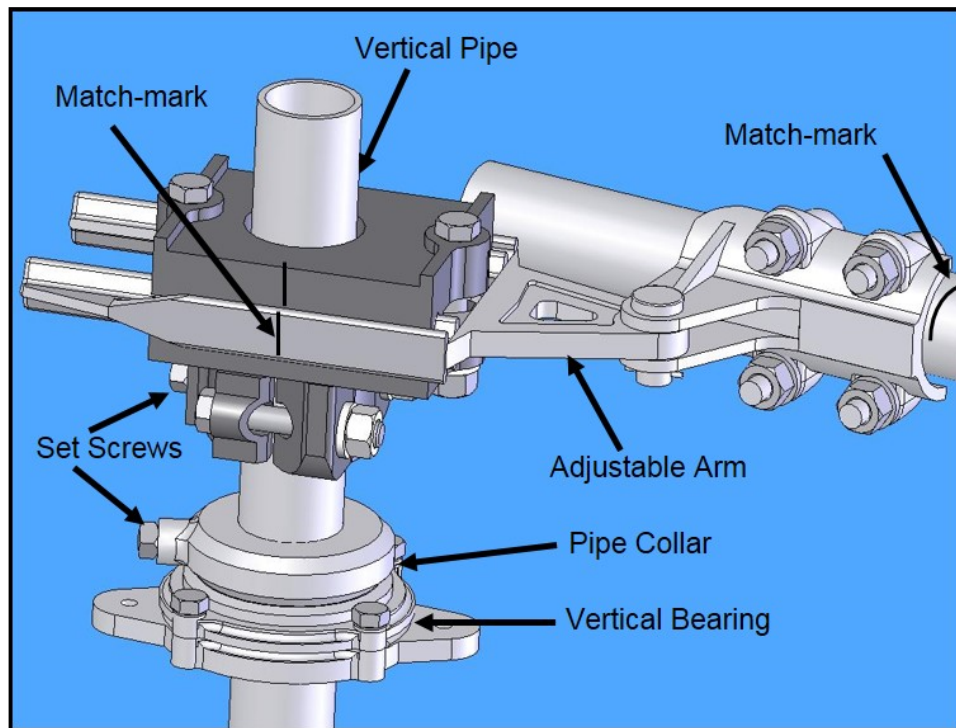
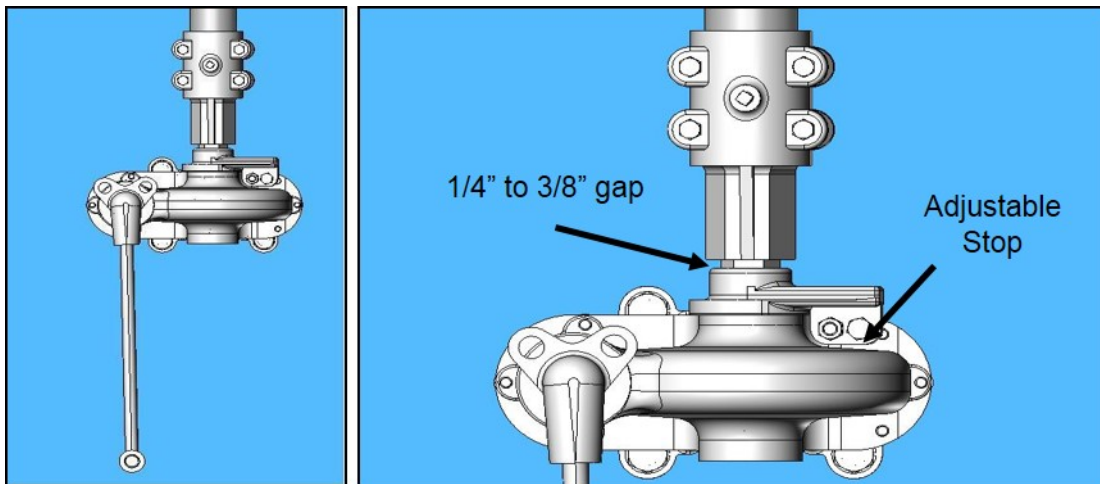

Figure 18: Typical Operating Arrangement
Figure 19: Type HOGO (High Output Geared Operator) Front View
3. Refer to the Operating Mechanism drawing, and install all mounting brackets, bearings, bushings, pipe clevises, switch operating device, adjustable arm, reach rod, and other necessary components. Refer to **Figure 18**.
5. After mounting all op-mech components, match-mark all clevis connections, the adjustable arm, and the switch operating devices' coupling, so that any slippage occurring during trial operations can be readily detected. Refer to **Figure 18**.
- 2.1.2. The weight of the vertical operating pipe should be supported by pipe collar (**Figure 18**) by maintaining the 1/4 - 3/8" gap (**Figure 19**).
- 2.1.3. When the switch is properly adjusted the operator handle should hang freely in both the open and closed positions to permit the use of a customer supplied padlock. Refer to **Figure 19**.
4.3. If the switch **does not** fully open before the operator reaches the fully open position, the adjustable arm radius is too short. Close the switch, match-mark the adjustable arm and the pipe clevis, and loosen the bolts on the adjustable arm and pipe clevis. **Lengthen the adjustable radius arm approximately 1/4". Allow the pipe clevis to reposition itself the same 1/4".** Refer to **Figure 18**. Test operation and readjust as necessary.
4.4. If the switch is fully open before the operator reaches the fully open position, the adjustable arm radius is too long. Close the switch, match-mark the adjustable arm and the pipe clevis, and loosen the bolts on the adjustable arm and pipe clevis. **Shorten the adjustable radius arm approximately 1/4". Allow the pipe clevis to reposition itself the same 1/4".** Refer to **Figure 18**. Test operation and readjust as necessary.